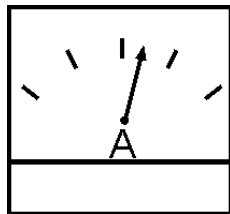

Figure 40. Ammeter (Load)
16. Observe the generator's ammeter (Figure 40) and verify it reads the anticipated amount of current with respect to the load. The ammeter will only display a current reading if a load is in use.